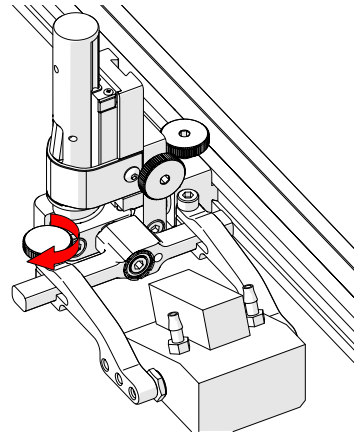

Fig. 82 - Tighten arm knob
6. Tighten the probe holder arm adjustment knob (Fig. 82).